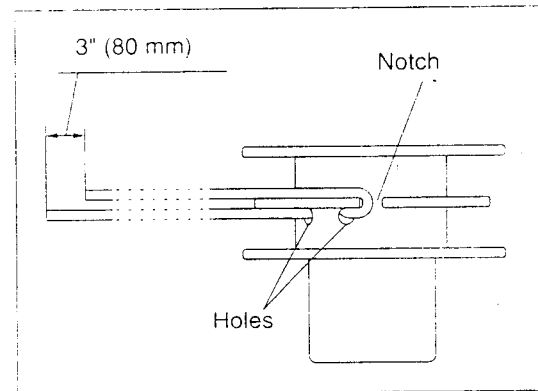

Fig. 45
2. Run the new nylon cord through the hole in the center of the spool, and pass one end of the cord through the notch into the other side of the spool. Allow one end of the cord to extend about 3" (80 mm) further than the other end (Fig. 45).